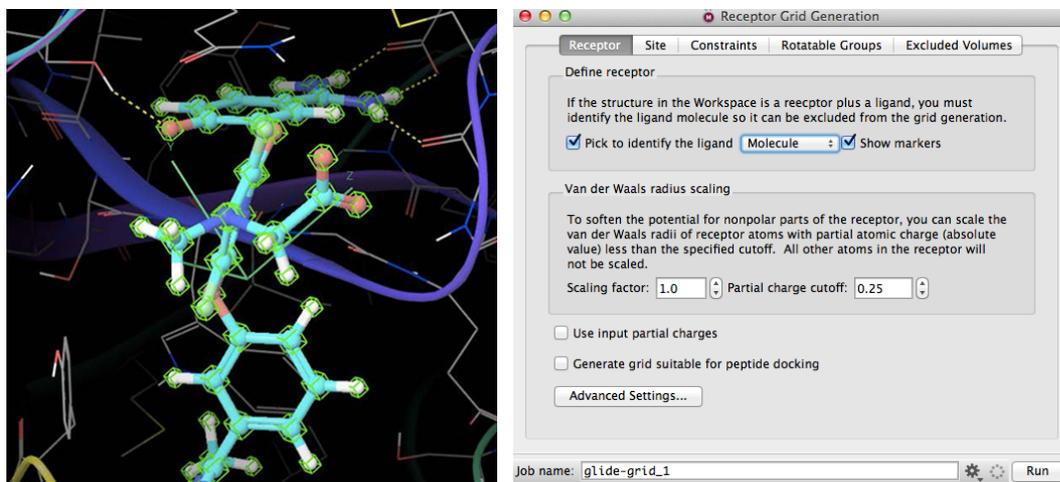

Figure 9. Identifying the binding site for grid generation.
8. *Identify the Binding Site.* Open the receptor grid generation panel (**Tasks -> Docking -> Grid Generation**). In the **Receptor** tab (**Figure 9, right side**) ensure that the following boxes **Pick to identify ligand** and **Show markers** are checked. Then press on the ligand in the workspace; the ligand should now be highlighted in green (**Figure 9, left side**).